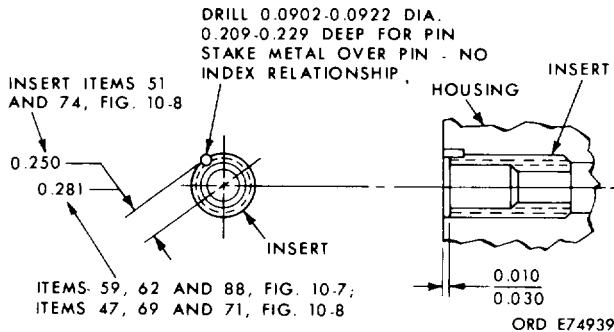

Figure 7-47. Dimensions for installing screw thread inserts and insert staking pins.
(1) If plugs (64, 65, and 66) were removed, install them.
(2) If dowel pins (67 and 73) were removed, install new replacements. Press the pins to 0.300 inch above the surface of housing (63).
(3) If screw thread inserts (69, 71 and 74) and staking pins (68, 72 and 75) were removed, install new replacement parts. Install to the dimensions given in figure 7-47. Use a bolt with the same thread size as the inner thread of the insert, and a sleeve with an
(1) If the brake and steer coolant pressure retaining valve assembly, items (48 through 51), were removed, install new replacement parts. Install valve seat (51) first, flat side down, into housing (55), pressing the seat until it is firmly seated in the housing. Install pressure retaining valve (50), convex side first, into housing (55). Install pressure retaining spring (49). Install spring guide (48) through spring (49), valve (50) and seat (51) into the housing. Press the spring guide into the housing until the top of the head is 0.450 inch below the surface adjacent to the valve bore in housing (55).
(2) If roll pin (54) was removed, install a new replacement. Press the pin to bottom in the hole.
(3) If screw thread inserts (53 and 56) and staking pins (52 and 57) were removed, install new replacement parts. Install to the dimensions given in figure 7-47. Use a bolt with same thread size as the inner thread of the insert, and a sleeve with an outside diameter smaller than the outside diameter of the insert, to install the inserts. The bolt should project through the sleeve 1 inch for the 5/16 18 inch thread bolts and 1 1/4-inch for the 3/816 thread bolts.
(4) If plugs (59, FO-7) were removed, install them.
(5) If two dowel pins (58) were removed, install new replacement parts. Press the pins to 0.300 inch above the surface of housing (55).
(6) If three plugs (60) were removed, install them.
(7) If reduction drive and driven gear roller bearings (63 and 95) were removed, install new replacements. Chill the bearings in dry ice for 4 hours and heat the housing to 3500 F before installation. Make certain the bearings are fully seated when installed.
d. Install retaining plate (86, FO-7) with tab lockwasher (87) and bolt (88). Make certain the tab of the lockwasher that is bent at right angle is inserted in the hole of the retaining plate. Bend the remaining two tabs against the flat sides of the bolt head.
e. If two screw thread inserts (83) and staking pins (84) were removed, install new replacement parts as follows: Select inserts for 0.002-inch tight to 0.002-inch loose fit. Install to the dimension given in figure 7-47. Use a bolt with the same thread size as the inner thread of the insert, and a sleeve with an outside diameter smaller than the outside diameter of the insert, to install the inserts. The bolt should project through the sleeve 1 1/4-inch for the 3/8-16 volts.